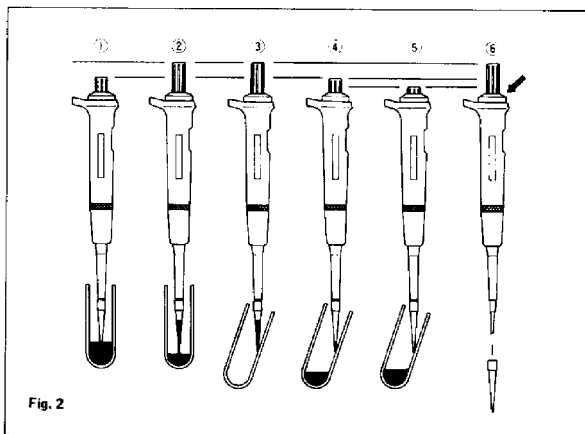

Fig. 2
3. Place a disposable tip firmly onto the end of the pipette. Depress the plunger knob to the first stop. Dip the tip into the liquid to a depth of 3 to 4 mm. (Step 1, Fig. 2)